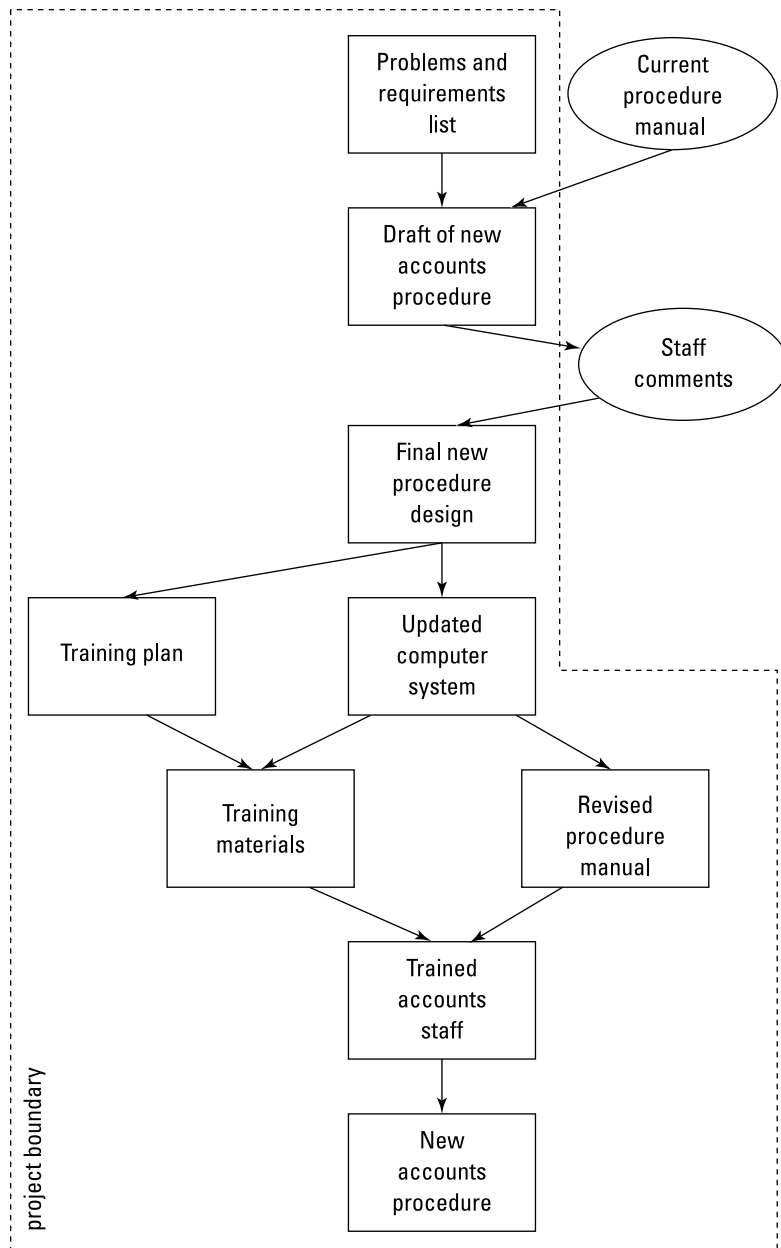

FIGURE 5-2:
Time for a re-draw of the Work Flow Diagram then – see Figure 5-2.
In Figure 5-2 you may have noticed that most products are in a rectangle but two are in ovals. The shapes discriminate between internal and external products. An *internal product* is a product that will be developed by one of the project teams. An *external product* is one that won't be developed by a project team, although it may be a very important product. External products fall into two groups:
- » **Products that already exist** (like the Current procedure manual in Figure 5-2). If the product already exists at the start of the project, clearly a project team isn't going to build the product during the project.
- » **Something supplied from people outside the project** (like the Staff comments in Figure 5-2). The product may be very important, but it won't be built by one of the project teams. In a computer project, it's unlikely that your teams will build the computer, but it's a very important product and the project can't go ahead without it.
The ovals and rectangles make the project boundary clear. In Figure 5-2 the ovals are to the outside of the diagram – although it isn't always possible to do that – so the boundary is particularly clear and is shown with a dashed line. When doing this for real you don't normally show the boundary line.